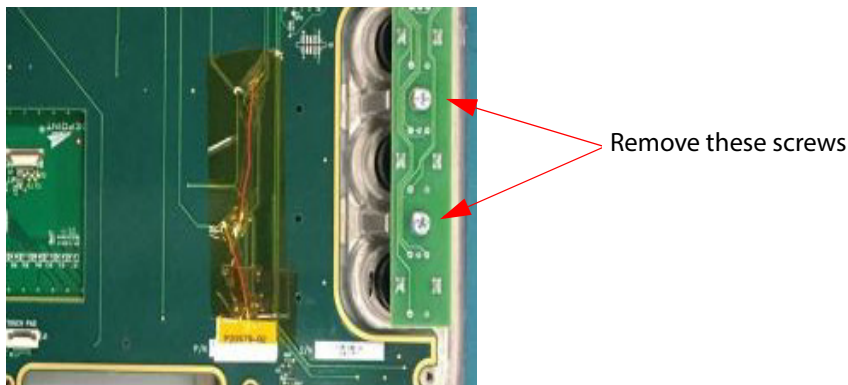

Figure 6.8 TGC Removal
- 1 Lay the Control Panel on its top, exposing the bottom with the TGC Assembly on the right and remove 2 screws shown in Figure 6.8.